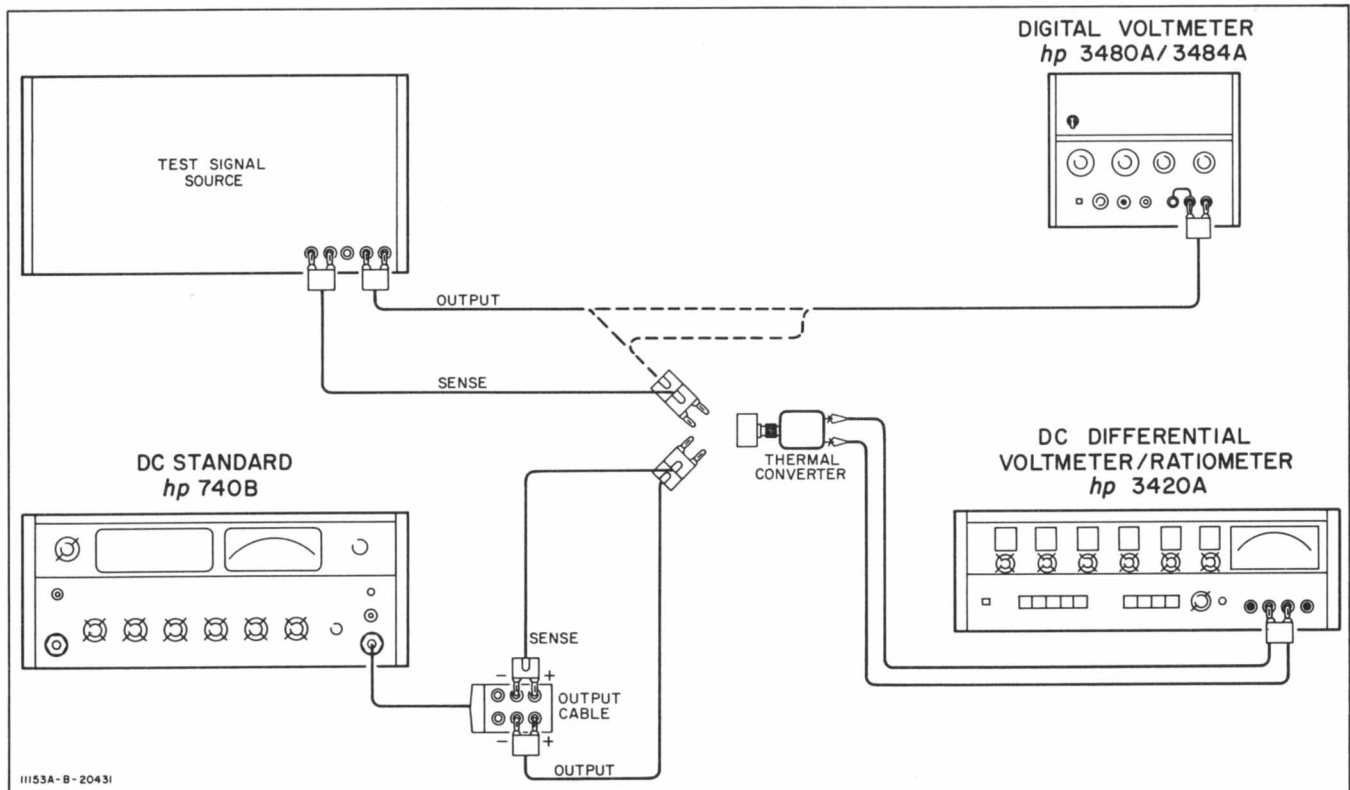

Figure 5-1. AC Voltage Accuracy Checks.
- a. AC to DC Transfer Measurement. Using a test setup similar to that indicated in Figure 5-1, apply an accurate dc voltage to the thermal converter, and adjust the dc differential voltmeter for a null indication. Remove the dc input from the thermal con-
5-6. Table 5-2 lists the voltage and frequency points which should be checked to verify the accuracy of the 11153A, together with the test equipment needed for each check. If the equipment required for some checks is not available, a good indication of performance can still be obtained by checking the points for which suitable equipment is available. The general test setup shown in Figure 5-1 can be adapted according to the equipment needed for each check.